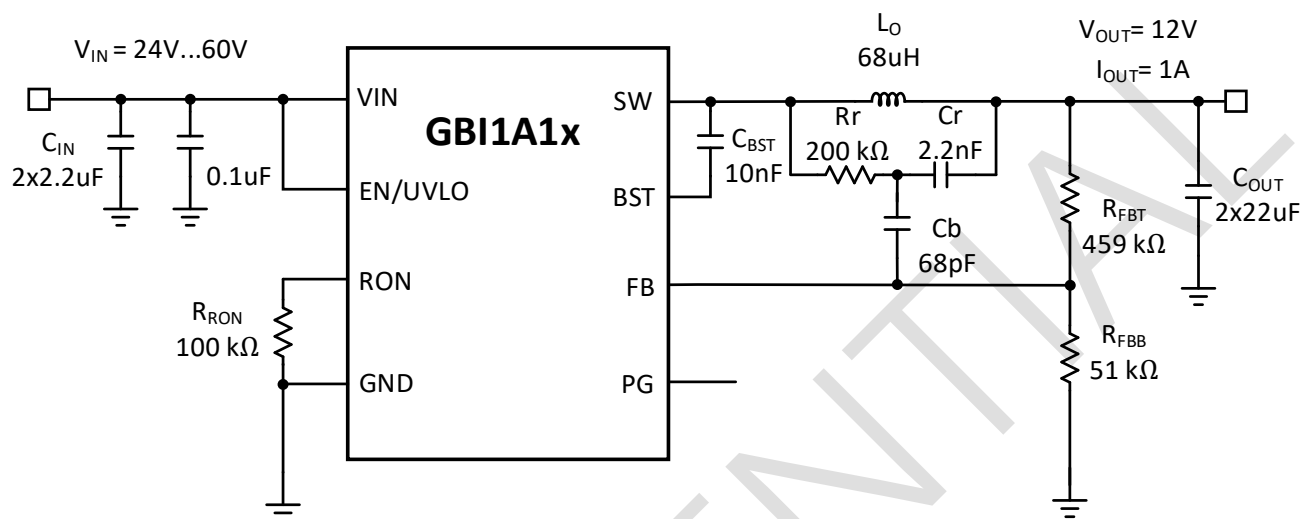
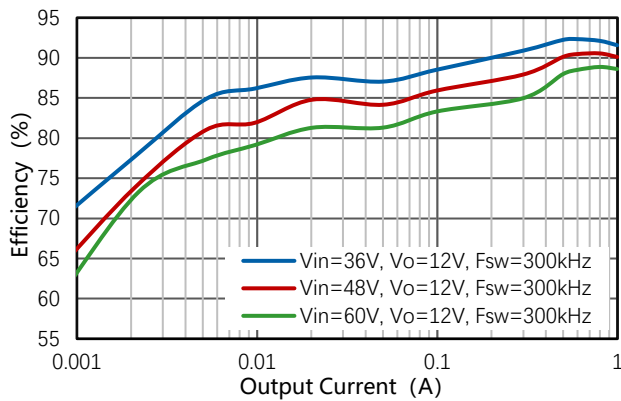

Figure 10-1. 48V Normal Input, 12V/1A Output with Type-3 Ripple Injection
Figure 10-2. Power Efficiency
The GBI1A1x output voltage can be easily set up using a resistor divider network R_{FBT} and R_{FBB} as shown in the typical application circuit Figure10-1. Use Equation (14) to calculate resistor divider values.
Table 10-2 and Table 10-3 list the recommended BOM for typical applications by referring Figure 10-1. It is recommended to work with switching frequency 200kHz if the input voltage is larger than 60V. Considering the capacitor's degrading under DC bias, it is recommended to leave margin on the voltage rating to ensure adequate effective capacitance. Typically, one 22 μ F(≥ 25 V) ceramic output capacitor work for most applications, if for achieving better load transient performance, two 22 μ F ceramic output capacitors are recommended. As described in 9.4, the ripple injection voltage is related to the R_{FBT} and R_{FBB} , so it is highly recommended to refer below table for BOM selection to avoid the unstable operation.
Figure 10-2 to Figure 10-17 are tested based on Figure 10-1 with GBI1A11.